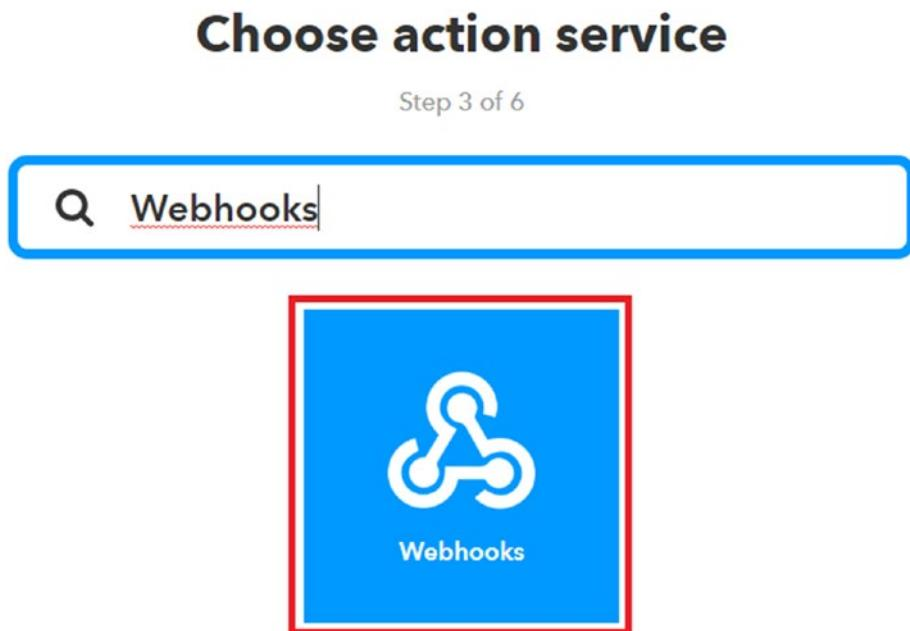

Figure 8-32. Choosing an action service
13. On the “Choose action service” page, again search for *Webhooks* (Figure 8-32). Then click the Webhooks button.